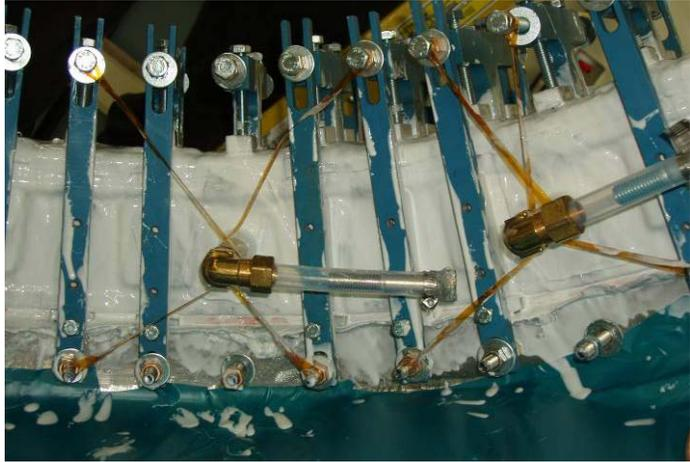

Figure 55- Bag Mold with Painted RTV 11
- 6.49.19 Once the vacuum of the bag has reached < **80 Torr vacuum**, Paint the outer surface of the silicone bag with 2- part RTV 11 (white) to seal any small leaks in the bag. Allow the RTV to dry for minimum 12 hours prior to installing the epoxy shell. Figure 55- Bag Mold with Painted RTV 11